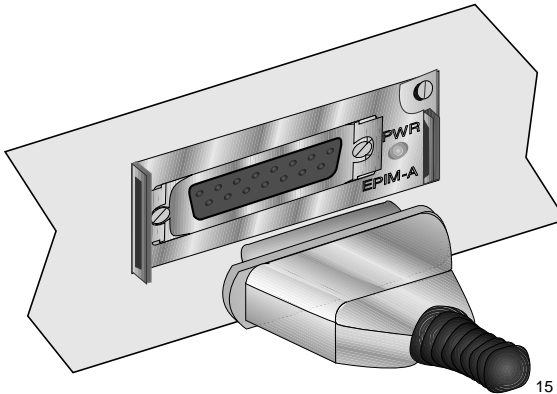

Figure 3-11 AUI Connector Insertion
1. Align the DB15 connector of the AUI cable with the AUI port of the EPIM as shown in Figure 3-11. The port will only connect if it is properly aligned.